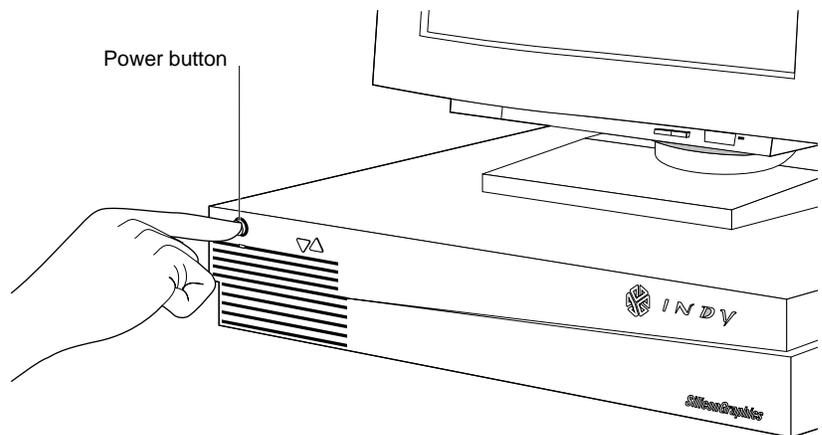

Figure 1-14 Turning on the Indy workstation
1. Turn on the power switch on the front of the Indy workstation, as shown in Figure 1-14.